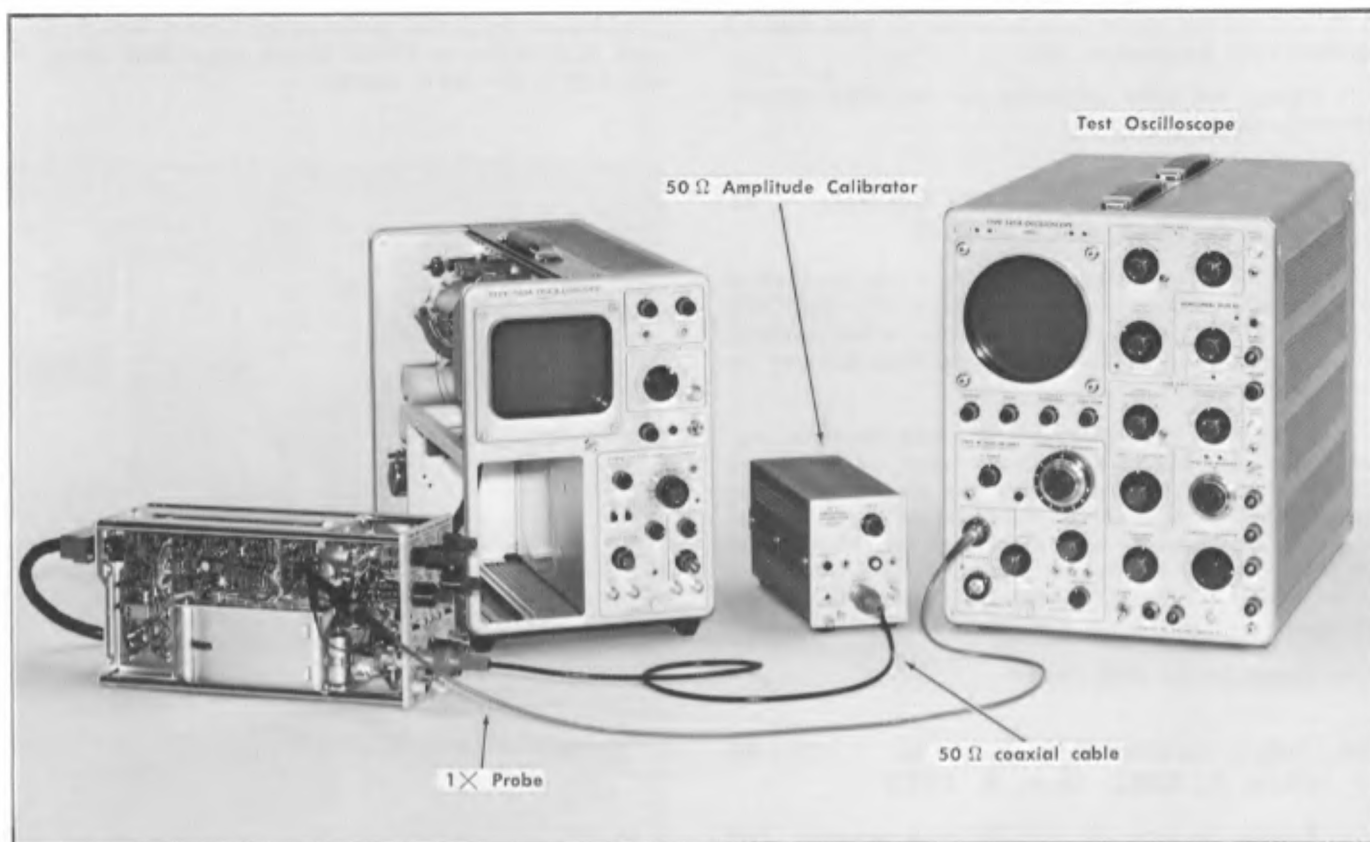

Fig. 8-21. Test setup for setting digital gain, Step 15.
a. Make the connections and control settings listed under Fig. 8-21. Obtain a stable display on both the sampling system and the test oscilloscope.